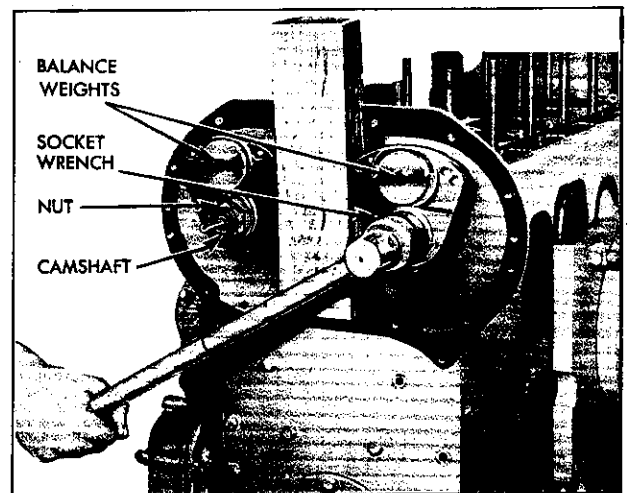

Fig. 2—Loosening Nuts (Camshaft—Balancer Shaft) with Standard 1 1/2" Socket Wrench.
4. Wedge a block of wood between balance weights to prevent rotation, then loosen nuts at both ends of shafts with 1 1/2" socket wrench, as shown in Fig. 2.